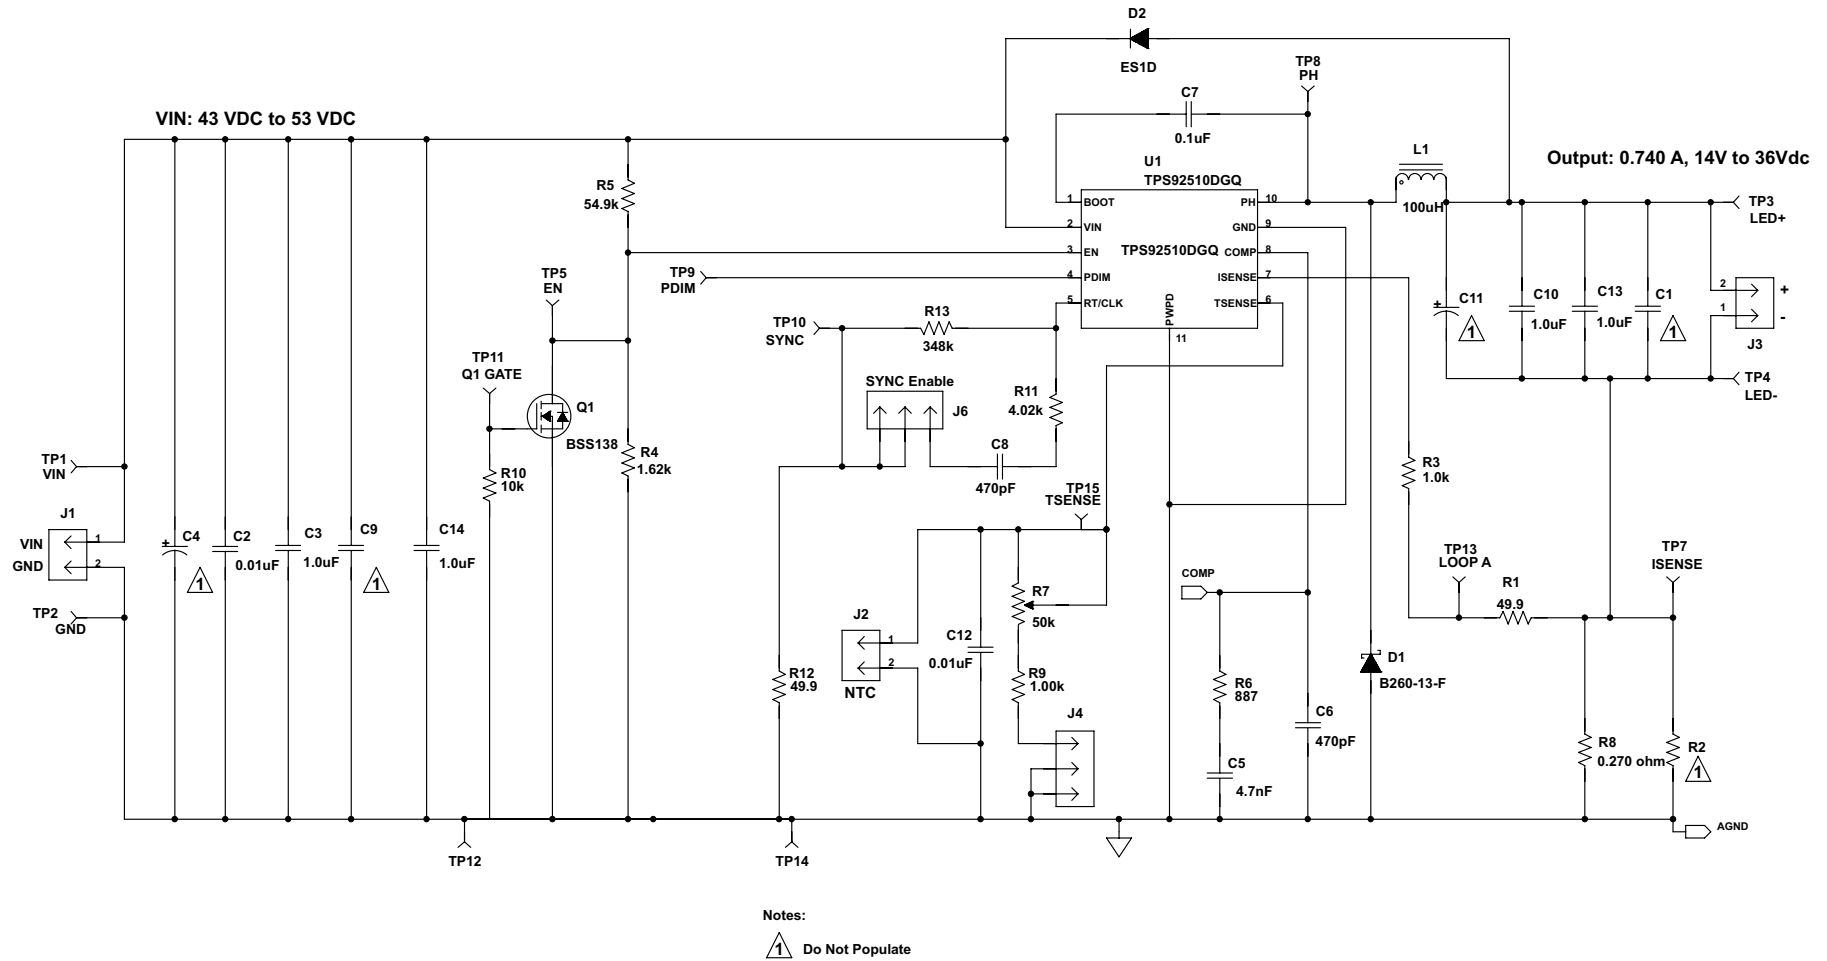

Figure 3. TPS92510EVM-011 Application Schematic
- Replaced Figure 3 with better quality image 7